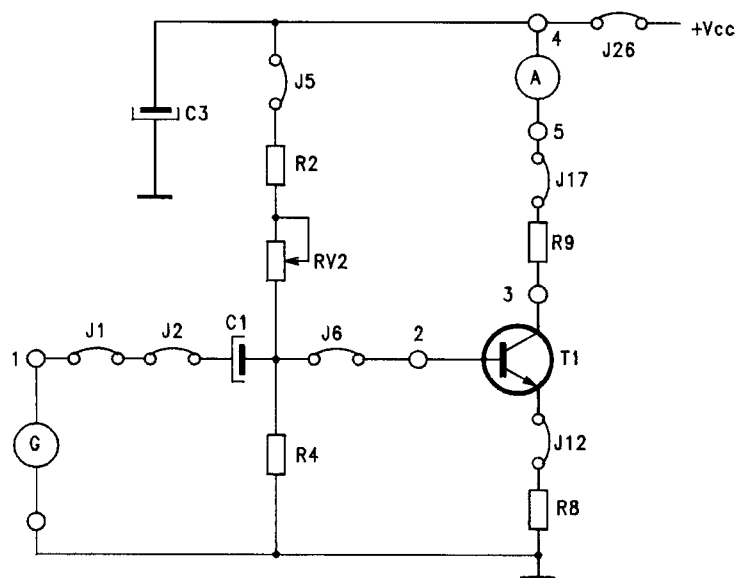

fig. B22.3
- Insert jumpers J1, J2, J5, J6, J12, J17, J26, the multimeter (function IDC) between terminals 4 and 5 to produce the circuit of fig.B22.3.